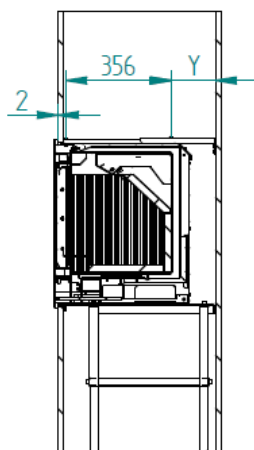

Figure 17 - Minimum distance between frame and face of plasterboard or masonry
14. Finally, you can place the door and frame on the unit, the frame should have a clearance of at least 2 mm in relation to the plasterboard or masonry, see Figure 17.